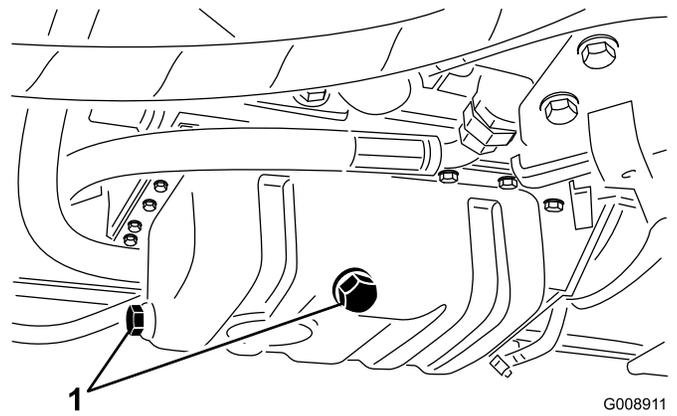

Figure 45
1. Remove either drain plug (Figure 45) and let oil flow into a drain pan. When the oil stops flowing, install the drain plug.